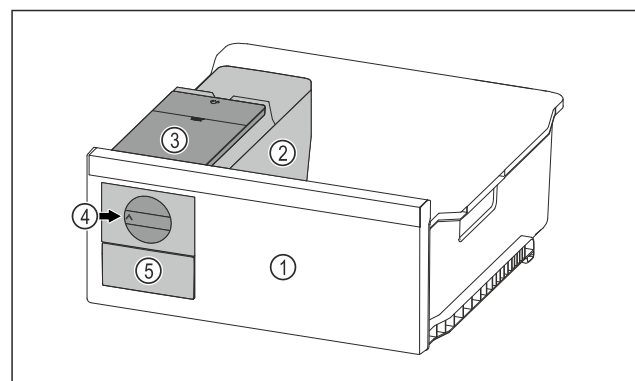

Fig. 179 Example illustration
- ▶ Turn the rotary knob Fig. 179 (4) clockwise as far as it will go.
- ▶ Ice cubes fall from the ice cube tray into the ice cube drawer Fig. 179 (5).